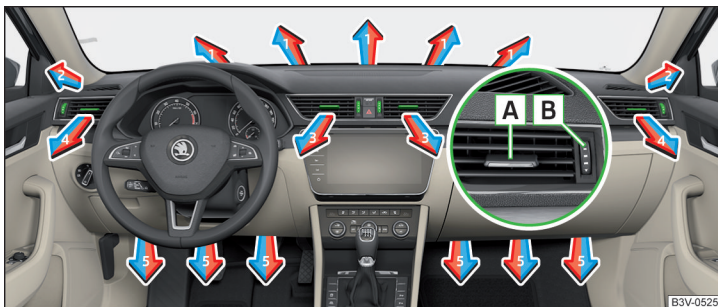
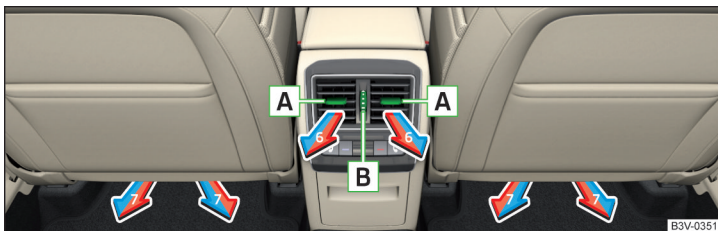

Fig. 170 Air vents at the front
Fig. 171 Air vents at the rear
The direction of airflow can be adjusted using the air outlet vents **3, 4** » Fig. 170 and **6** » Fig. 171, and the vents can be opened and closed individually.
The setting of the airflow direction is carried out by moving the adjustment element **A** » Fig. 170 or » Fig. 171 in the desired direction.
- To **open**, turn the controller **B** » Fig. 170 or » Fig. 171 upwards.
- To **close**, turn the controller **B** » Fig. 170 or » Fig. 171 downwards.
Set the direction of the air outlet	Air vents » Fig. 170 and » Fig. 171